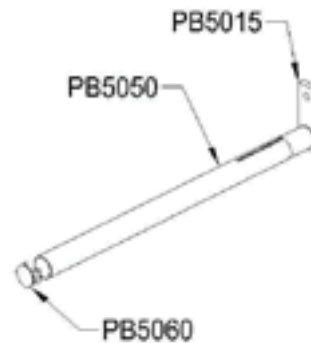

Figure 5
- A. Push on the mounting tube (part number PB5050) to the swivel (part number PB5015). See Figure 5. PB5060 is already assembled to tube.